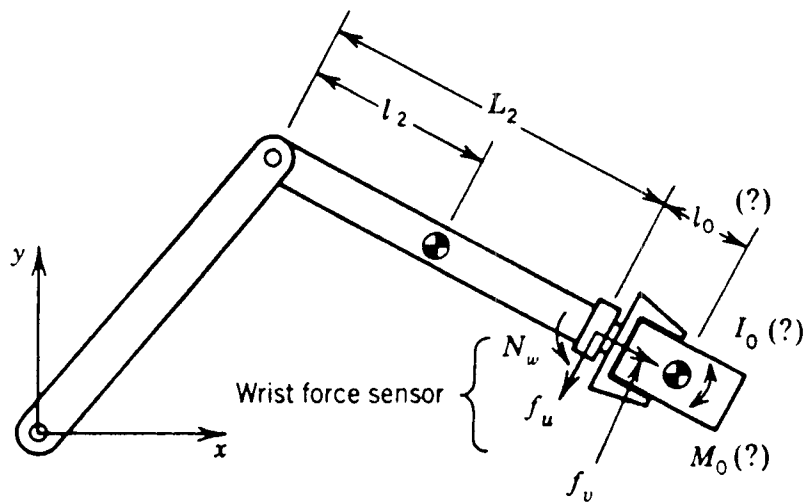

Fig. 5 A two degree of freedom manipulator transferring an object with unknown mass properties.
5. Figure 5 shows a manipulator with a gripper transferring an object whose mass properties are unknown. In order to calculate the mass properties, a wrist sensor detecting linear forces f_u and f_v and moment N_w is attached to the arm tip as shown in figure. Joint angles, joint velocities and accelerations as well as forces and moment at the wrist sensor, are measured while moving the object. From the data measured by the wrist sensor, the joint position sensors, the velocity sensors, find the total mass M_o of the object and the gripper, their total moment of inertia I_o and the distance l_o between their total mass center and the wrist sensor. Is the set of joint accelerations data necessary to determine the mass properties ?